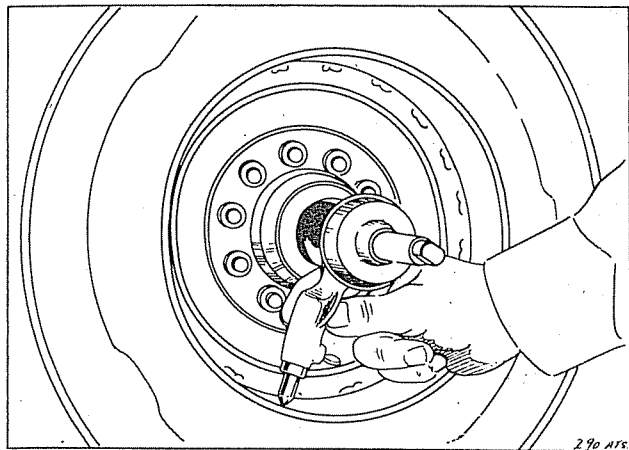

Fig. 15—Checking Brake Drum Diameter.
- (1) Remove wheel and hub.
- (2) Remove brake shoe return springs and test spring tension by comparing with a new spring.
- (3) Inspect lining for abnormal wear, glazed braking surface and also for uniform material on opposite wheel.
- (4) Inspect brake drums for concentricity, scoring, and grease.
- (5) Instal brake shoe return springs and set cams in released position.
- (6) Check the inside diameter of the brake drum (Figure 15). Set the brake shoe gauge arbour so that finger marked DRUM is just in contact with the point of the brake drum gauge pin. Place the proper adaptor bushing on the spindle or axle shaft and slide the brake shoe gauge over the adaptor bushing.